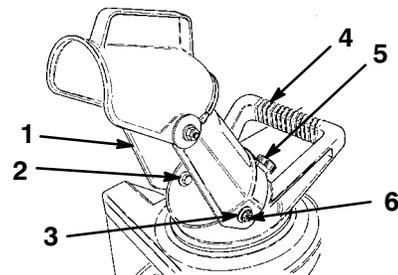

Figure 3
1. Position the holes on the discharge chute over the hex bolts on the sides of the chute handle (Fig. 3).
2. Secure the discharge chute onto the hex bolts with two washers and two locknuts (Fig. 3).
5. Install the knob **tightly** onto the screw at the rear of the discharge chute (Fig. 3).